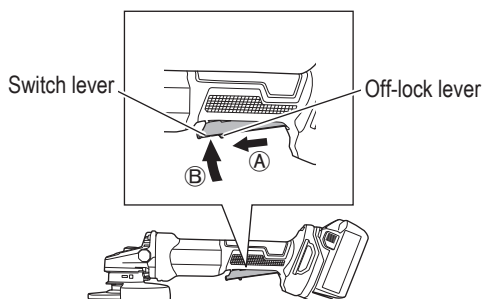

Fig. 17
<G3613DVF> (Fig. 17)
To switch on, slide the off-lock lever in the direction of (A) and press the switch lever in the direction of (B) as shown in Fig. 17. Release the switch lever to switch off.